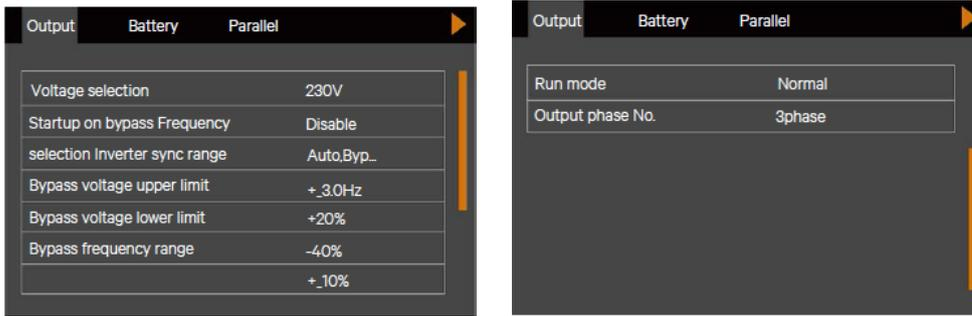

Figure 2-7 Output interface screen
2. Press the power button for two seconds, the LCD prompts a dialogue box shown in Figure 2-7.